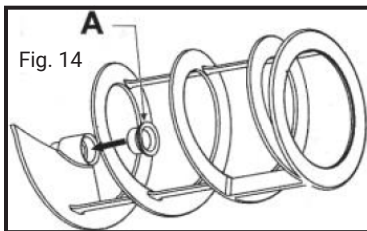

Fig. 14
1. Apply the seal A on the auger as show on the image (Fig. 14).